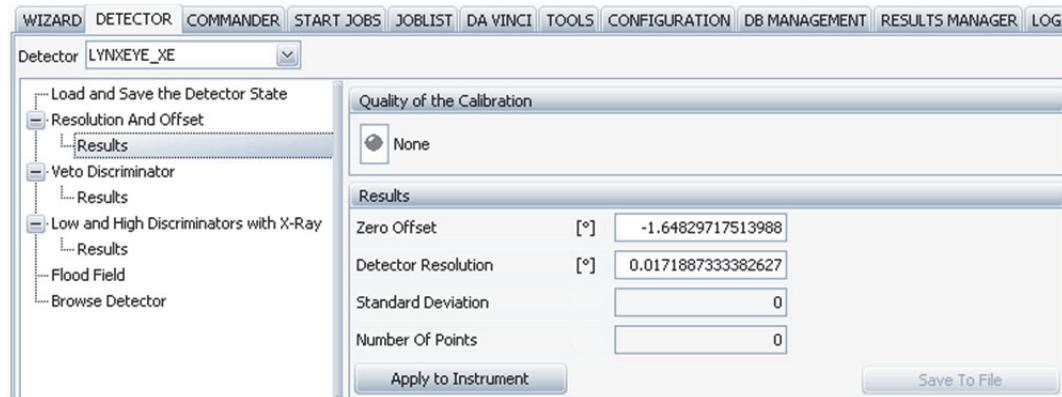

Figure 6.36: Apply the calculated values to the instrument.
5. Press 'Apply to Instrument' to activate the calculated values, see Figure 6.36.